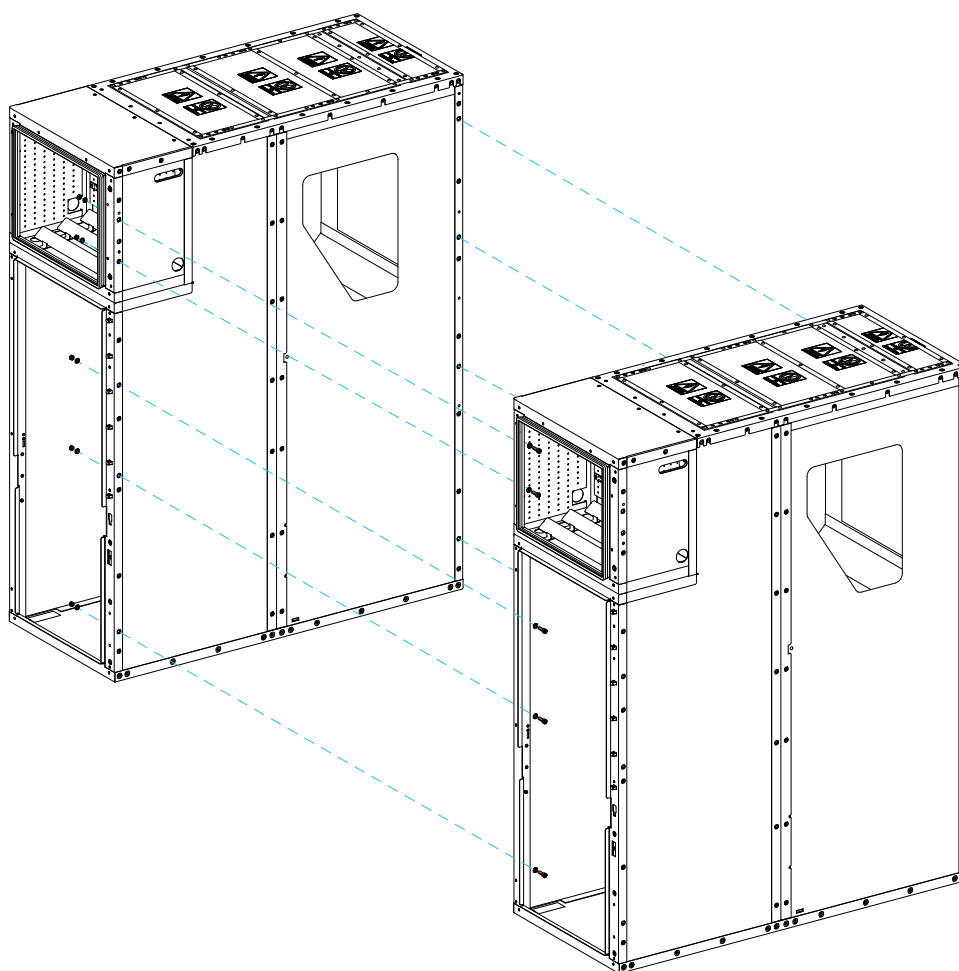

Figure 23
1. Position the second cubicle next to the previous one in accordance with the assignment plan and align it (Figure 23).